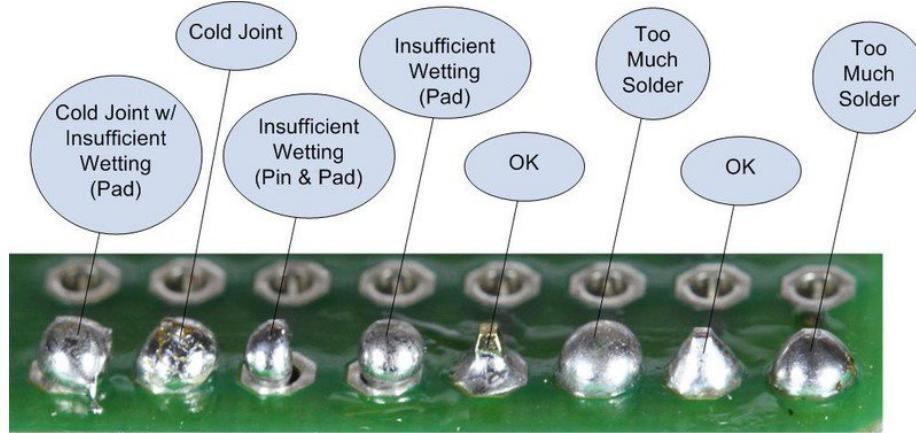

Figure 10: Examples of Good and Bad Solder Joints
2. Even if each solder joint feels solid it may still have a bad connection to the pad, use figure 10 as a reference and fix any bad solder joints